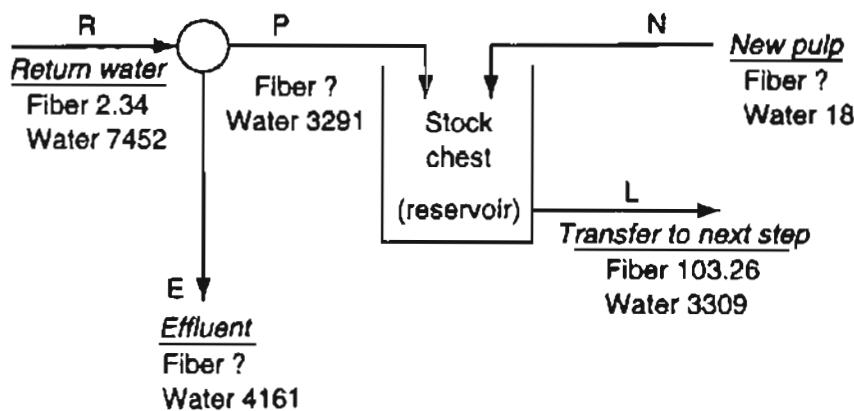

Figure P11.13
- *11.13 In a tissue paper machine (Figure P11.13), stream N contains 85% fiber. Find the unknown fiber values (all values in the figure are in kg) in kg for each stream.